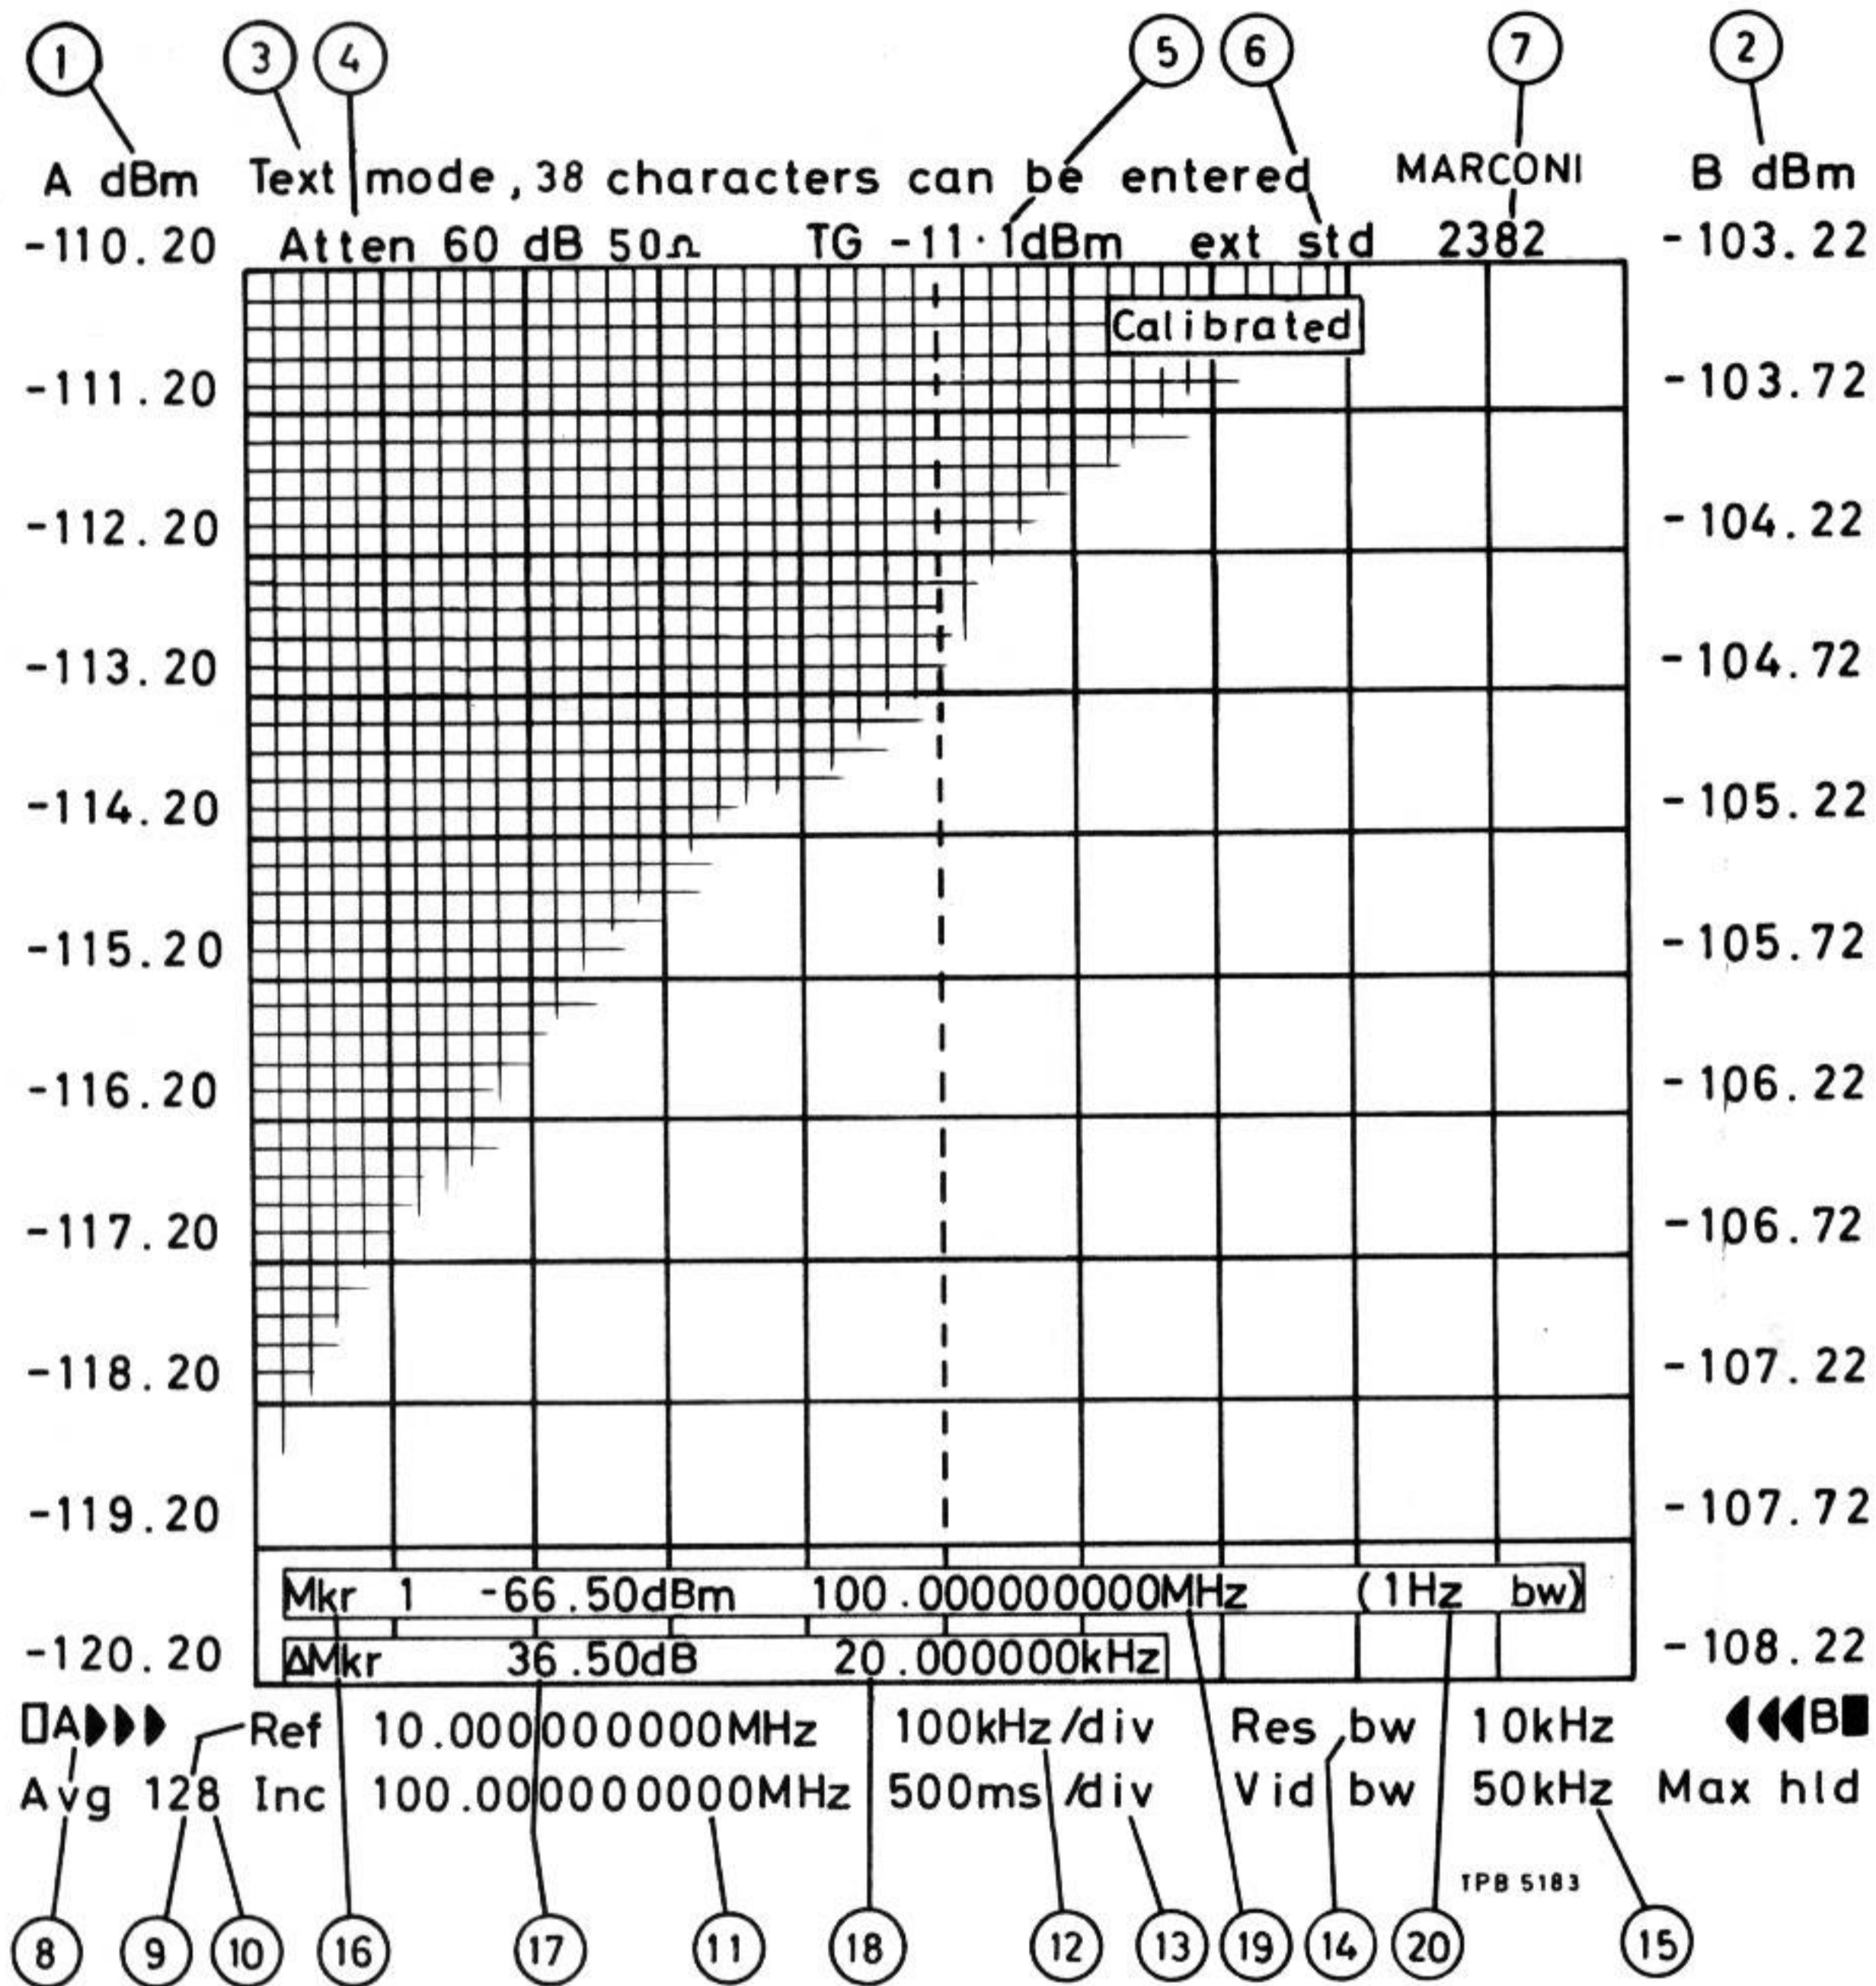

Fig. 3 CRT display annotations
6. The top 10 mm of the display is used for the following dedicated information (refer to Fig. 3):
8. Data entry areas towards the top of the graticule are used to display user prompts and standard error messages during normal use e.g. the 'calibrated' condition as shown in Fig. 3, KEY SELECTION NOT VALID, OUT OF RANGE etc. Menus of various types are often displayed superimposed on the trace to assist in the use of a particular function. If the trace interferes with the reading of a menu, it can be faded out using the appropriate intensity control.
9. The bottom 10 mm of the screen is used for the following dedicated information (refer to Fig. 3):
19. Notice that the value of r.f. input attenuation is displayed and that the reference frequency, initially set at 200 MHz, is indicated by a dashed vertical line and marginal annotation. Incremental frequency (initially set at 40 MHz (one tenth of span)), sweep span (40 MHz/div.), sweep time (10 ms/div.) resolution bandwidth (1 MHz) and video bandwidth (11 kHz) are also marginally annotated. Typical c.r.t. display annotations can be found in Fig. 3.
39. Set markers A B SELECT key to 'A' and press MKR 1 [34]. A bright dot marker appears on the screen in the position occupied when the key was last selected. Adjust DISPLAY A and graticule intensities for best contrast. Display annotations for this marker can be seen on lines three and four from the bottom of the screen (refer to Fig. 3). They show the number of the marker in use (MKR 1 in this case) and the level and frequency of the signal indicated by it.